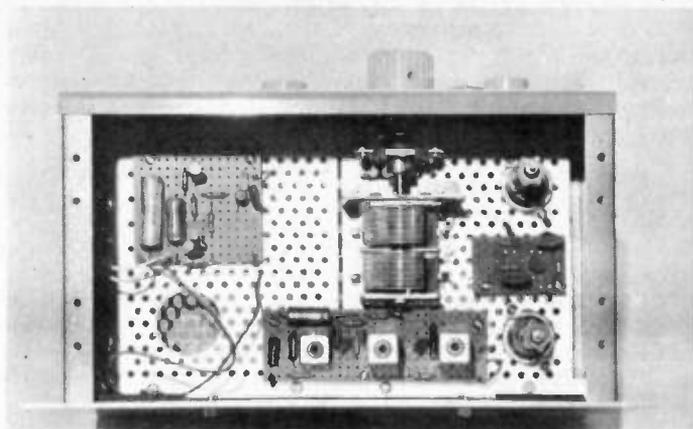

Fig. 5. The layout and wiring of the mixer board.
If 0.15in matrix plain perforated board is cut with six rows of holes 10 holes long, components can be inserted exactly as in Fig. 5.
and mark for two 6BA bolts. These should not be too near the board edges, or the board may break. Insert two 13mm ( $\frac{1}{2}$ in) 6BA bolts, locking them with a tag under one nut for the metal chassis connection (MC), Fig. 5.
Place the resistors and capacitors as in Fig. 5. Bend and cut the leads so that they can be soldered as shown. TR1 can then be inserted and connected. The iron should be at full heat, and it is removed immediately the joint is properly made. This will be in a second or so. Unnecessarily prolonged heating may damage the transistor.
Two further nuts are put on the 6BA bolts, to hold the board about 6mm from the metal chassis plate. It is then fixed with lock nuts tightened below. The tag MC, Fig. 5, and its securing bolt thus provide an earth or negative return to the chassis.